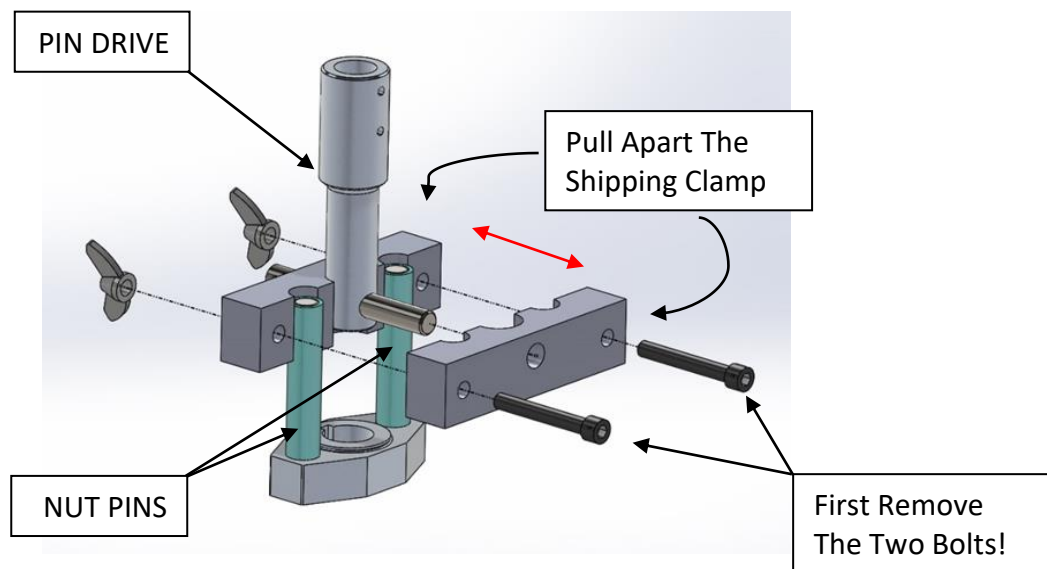
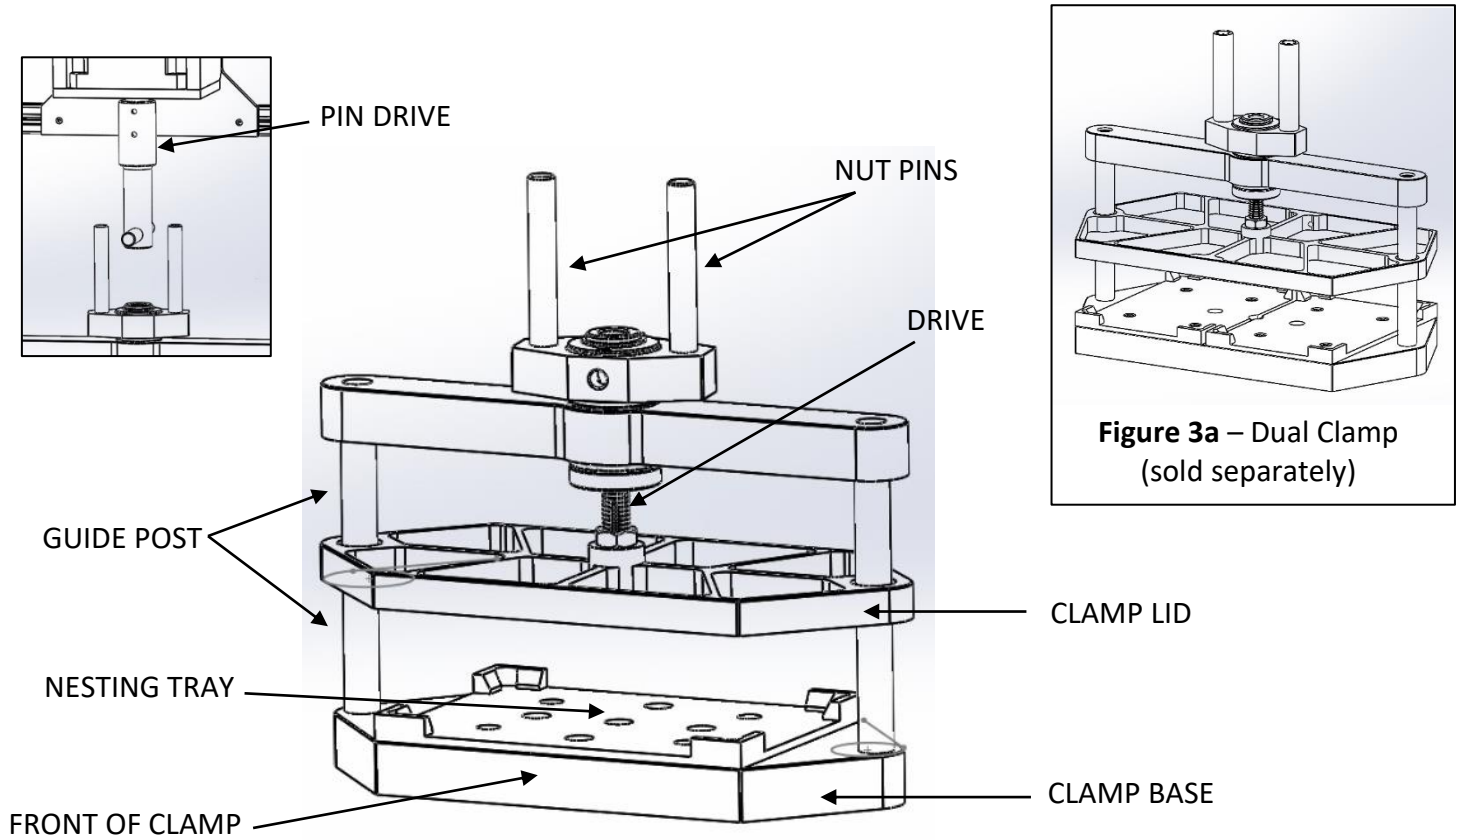

Figure 1 – Removal of Shipping Clamp
Figure 3 - HG-800 Geno/Grinder, Clamp Mechanism
- 5. Important!!! Remove the shipping clamp from Clamp Mechanism. (Figure 1)**
The power (OFF/ON) switch and power cord receptacle is located on the rear of the unit (Figures 3). The detachable power cord should be plugged firmly into its inlet, then into an electrical outlet. Make sure that the electrical outlet is easily accessible in case it becomes necessary to unplug the unit. For 115V/60HZ use, a 3-prong outlet is recommended. The 230V/50HZ power cord has a standard European 2-prong plug, make sure the cord and plug conform to local electrical codes.
The clamp is the most critical component of the HG-800 Geno/Grinder, as it must securely hold the titer plate firmly in place. The up-and-down motion of the clamp is extremely vigorous (Figure 3). **Note, remove shipping clamp before running, as shown in Figure 1.**
3. A new titer plate is picked up by the robotic arm and placed in the HG-800 Geno/Grinder Clamp Mechanism (Nesting Tray). (Figure 3)